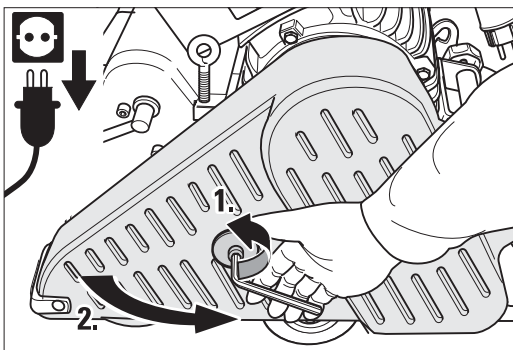
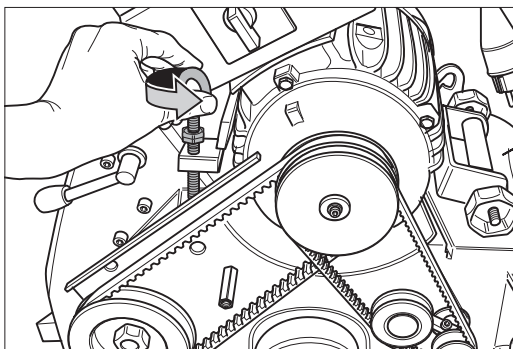

Fig. 49 Pull out the mains plug and open the belt guard.
Fig. 50 Release the V-belt tension by loosening the eye bolt.
- 2 To remove the V-belt, open the belt guard (Fig. 49) and release the V-belt tension by loosening the eye bolt (Fig. 50).